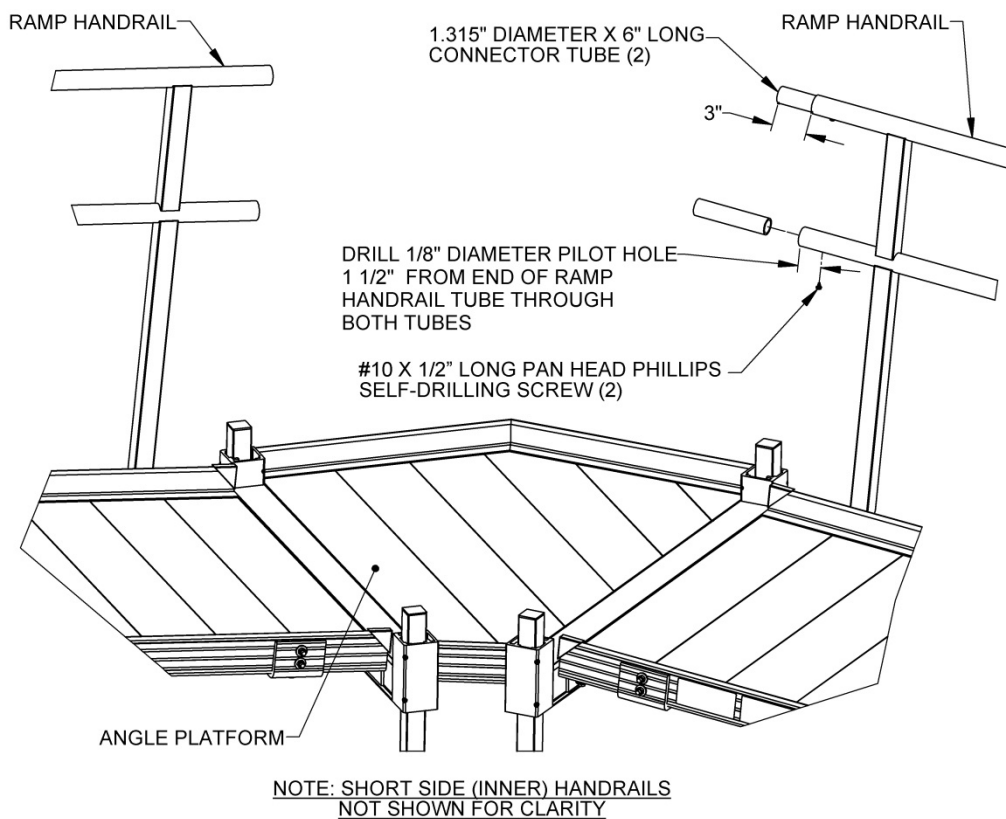

FIG. 5
- 4.4. Insert the 1.315” diameter x 6” long connector tubes into the ramp handrail tubes until 3” of the connector tube is left exposed. Drill 1/8” diameter pilot holes on the underside of the ramp handrail tubes 1-1/2” from the end. Drill through one wall of both ramp handrail and connector tubes (FIG. 5).